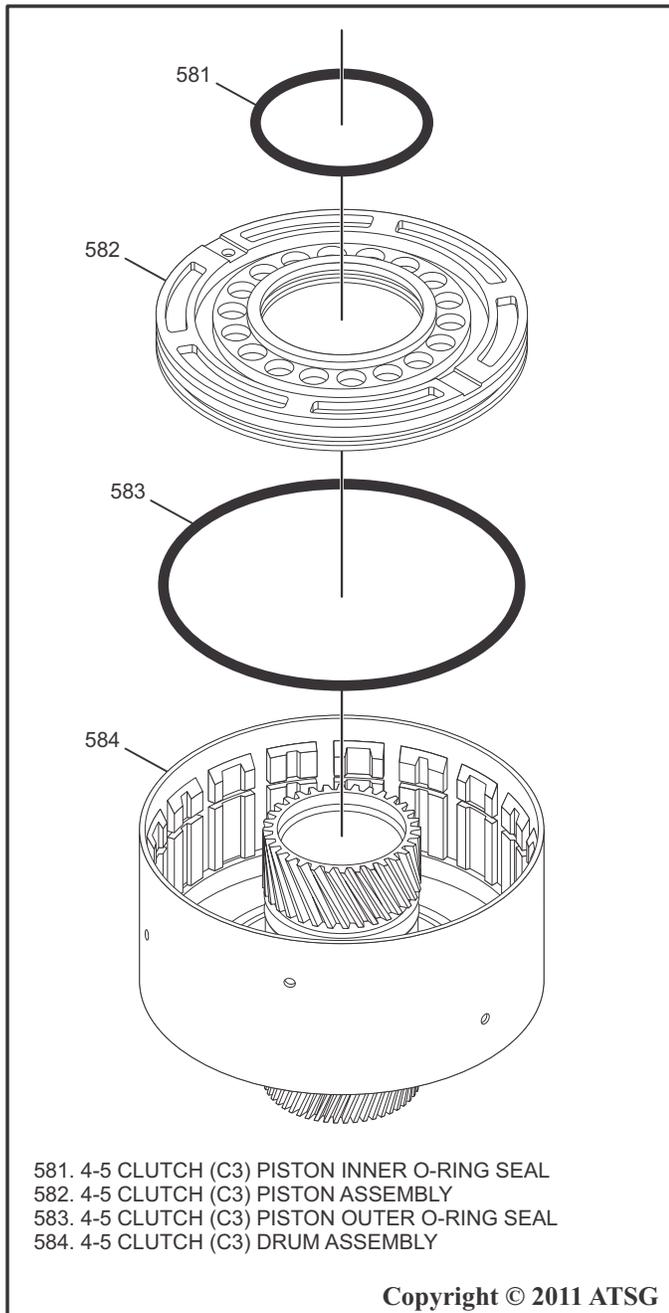

Figure 138
4. Install a new Inner O-ring Seal and a new Outer O-ring Seal on the 4-5 Clutch (C3) Piston as shown in Figure 138.
6. Install the 4-5 Clutch (C3) Piston Assembly into the drum by carefully pushing downward with your hand as shown in Figure 138.